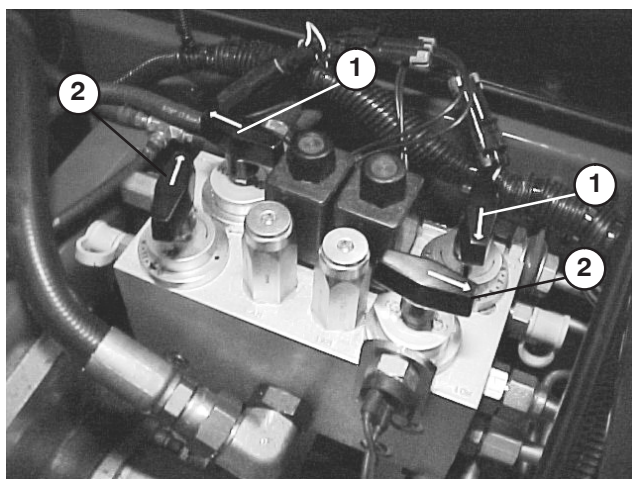

Figure 28
4. To set reel speed, rotate knobs (Fig. 28) until indicator arrows are in line with the number designating desired setting.